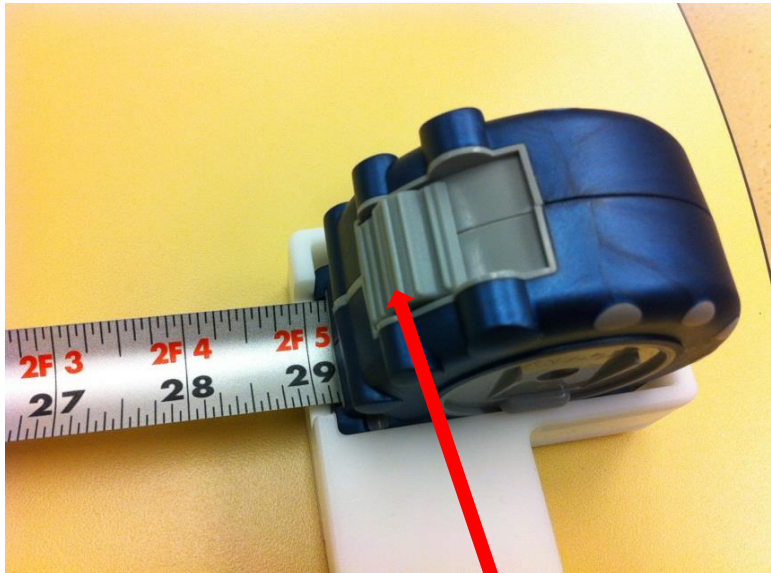

Figure 3.3.4
- While working on any surface simply use the locking mechanism on the measuring tape to secure the slide block from moving. **Figure 3.3.4**